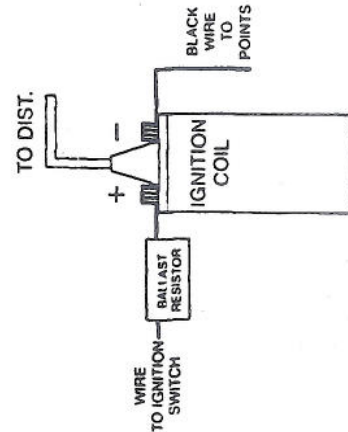

FIGURE 2
5. The red wire from the Ignitor should be connected to the positive (+) side of the coil, or a 12-volt switching power source (See Figure 2 & 3). The black wire should be connected to the negative (-) side of the coil.
10. For installations that do not use a primary ballast resistor or resistance wire, connect the *Ignitor* red wire to the positive (+) side of the ignition coil. (See Figure 2)